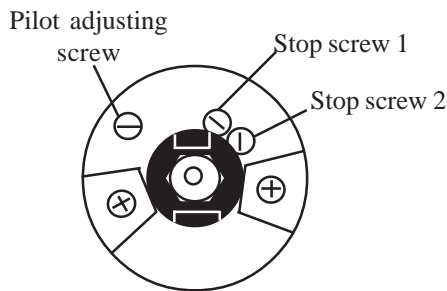

Fig. 4a
- 5.4.2 Referring to Figs. 4a to 4c, identify stop screws 1 and 2.